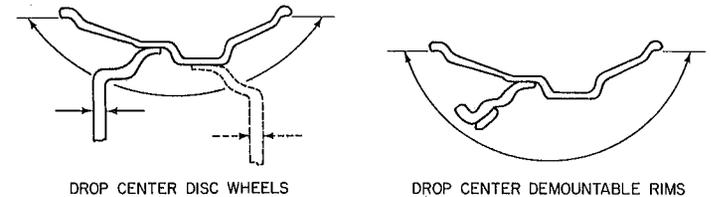

FIG. 2
3.2.2 **DROP CENTER DUAL DISC WHEELS AND DROP CENTER DEMOUNTABLE RIMS**—Disc wheels may be labeled on the weather side of the rim, or both sides of the disc. Locate information on the weather side of demountable rims as shown in Fig. 2.